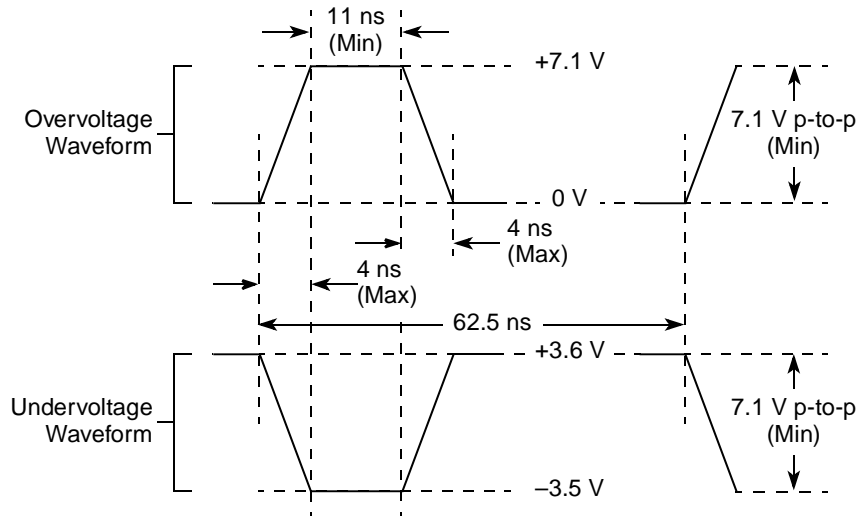

Figure 3. Maximum AC Waveforms on PCI Interface for 3.3-V Signaling
- OV_{IN} on the PCI interface may overshoot/undershoot according to the PCI Electrical Specification for 3.3-V operation, as shown in Figure 3.
Figure 3 shows the undershoot and overshoot voltage of the PCI interface of the MPC8323E for the 3.3-V signals, respectively.